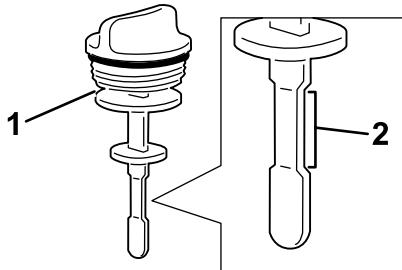

Figure 103
4. Remove the dipstick from the filler neck and check the fluid level (Figure 103).